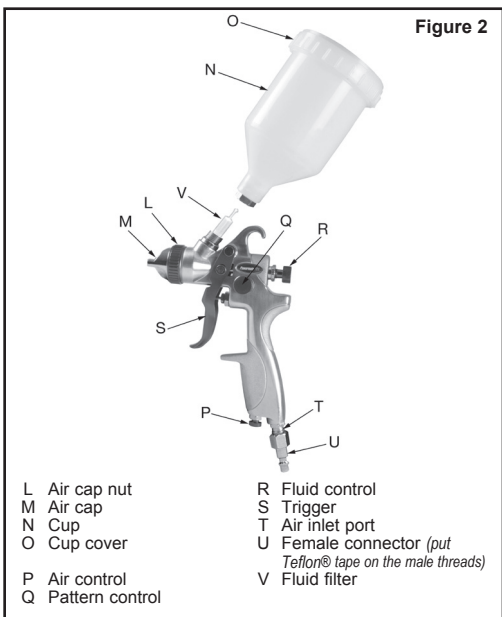

Figure 2
- Install a 1/4" NPT female connector (included in accessory kit) onto the air inlet port of the tool. (see Figure 2). **Note: Use Teflon® Tape on all threaded connections.**
- Insert a fluid filter into the fluid inlet (see Figure 2).
- Pattern control knob (see Figure 2) - for a full pattern, turn the knob in a counterclockwise direction and for a round pattern, turn the knob clockwise. This knob is used to create the proper pattern of paint as it is sprayed from the spray gun.
- Fluid control knob (see Figure 2) - turn in a clockwise direction to reduce the amount of paint and counterclockwise to increase the amount of paint. This knob controls the amount of paint that is mixed with the air. **NOTE: If the fluid control knob is turned in all the way, the gun will emit only air.**